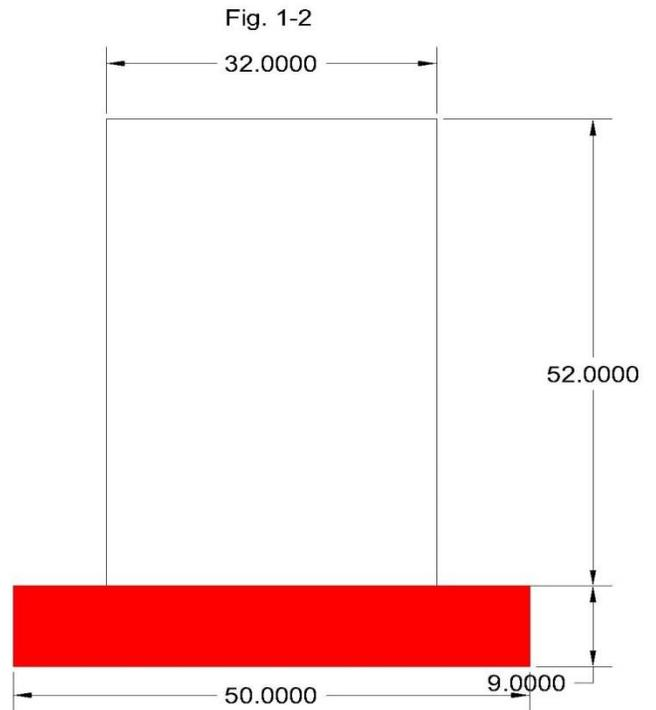

Fig. 1-3
- Using a single piece of self-adhesive flashing tape, make a sill pan with an end dams (sides) that run up the Rough framing jamb at least 6" and fold over on to the face of the rough opening and extend outward from the rough opening at least 2". (Figure 1-3 and 1-4)